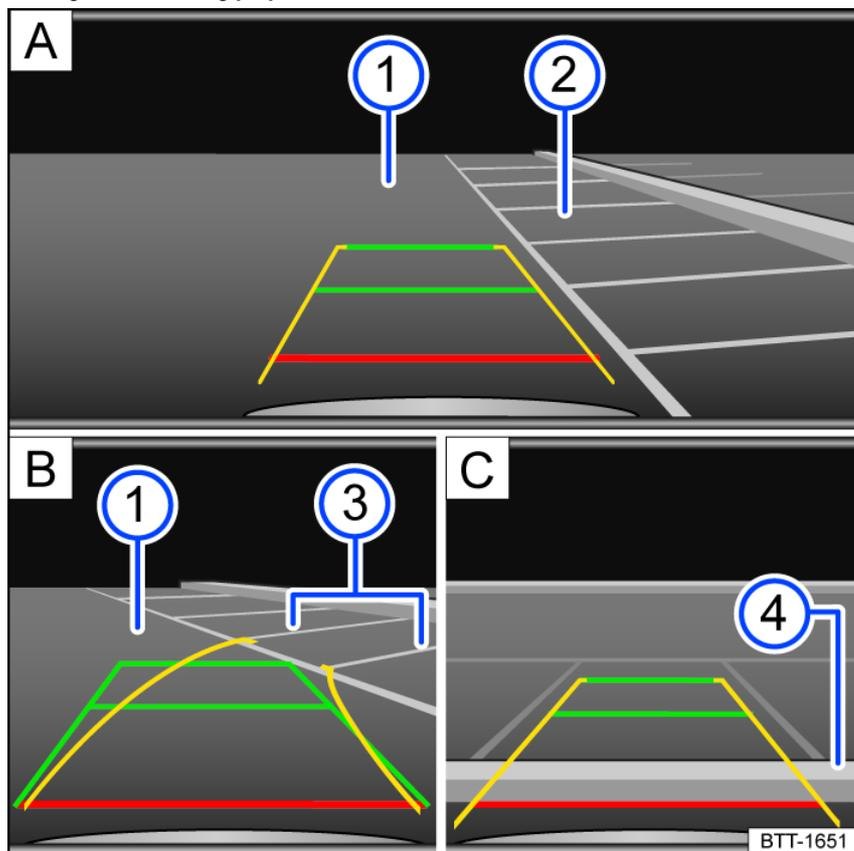

Fig. 145 Infotainment system: Parking perpendicular to the road.
- ① Road surface.
- ② Parking space.
- ③ Side boundary of the parking space.
- ④ Rear boundary of the parking space.
3. Position your vehicle in front of the parking space *fig. 145* **A** ②.
4. Steer so that the yellow lines lead into the parking space. The green and yellow lines must align with the side boundary lines *fig. 145* **B** ③.
5. Stop when the red line reaches the rear boundary *fig. 145* **C** ④.